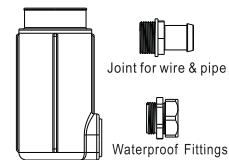

Figure 2
5. TL-1F: Underwater lights installed outside waterproof connector and cable fittings selection (Figure 2).